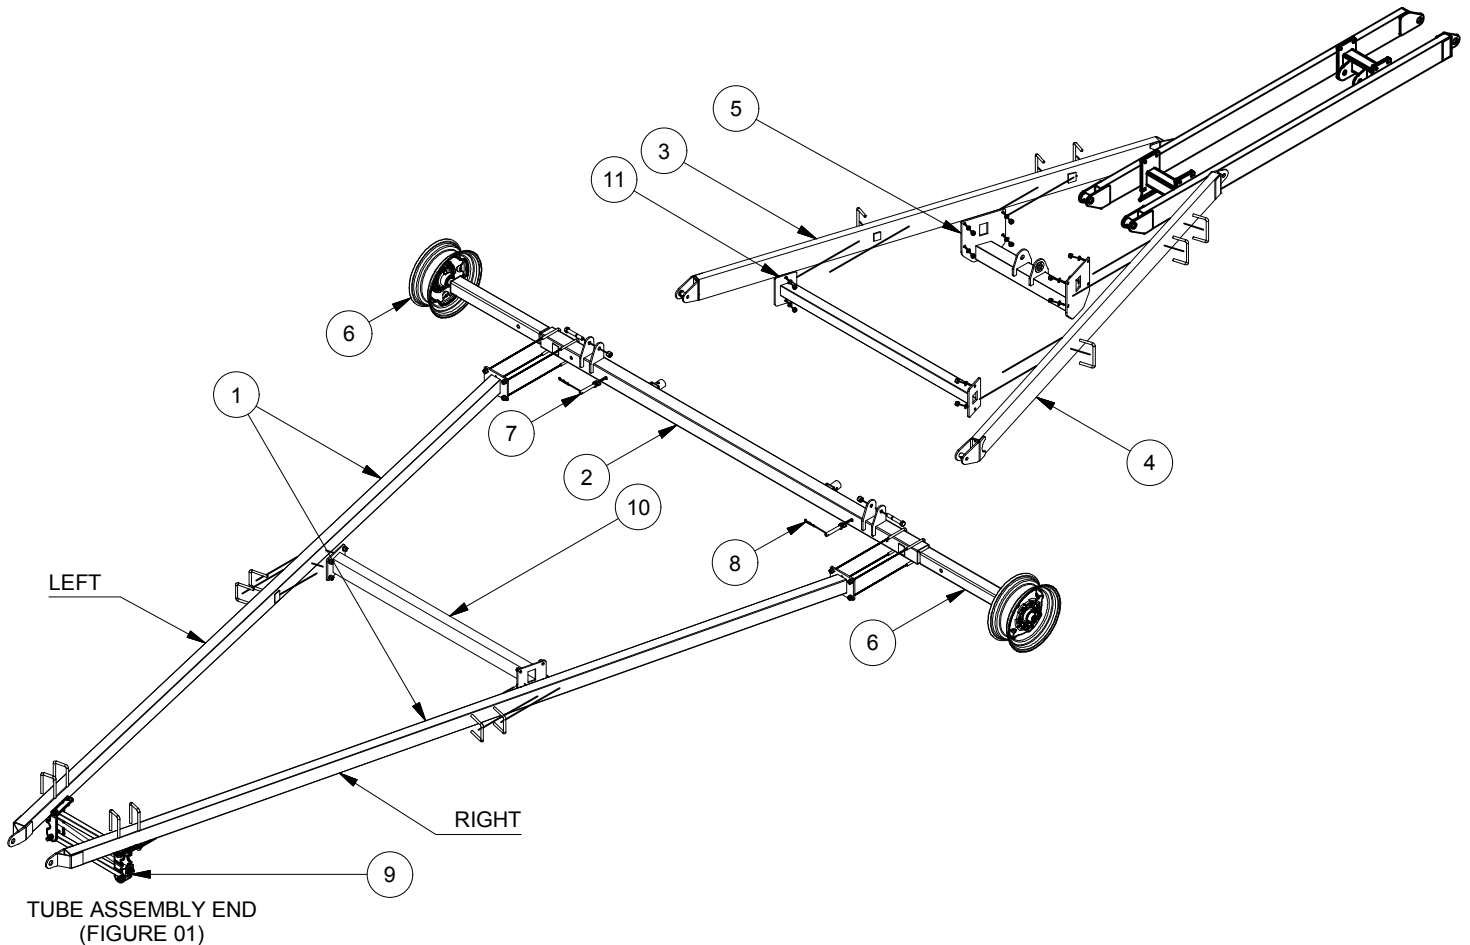

FIGURE 10
7. Lift the now assembled (FIGURE 1 & 9) together and position it over the partially assembled (FIGURE 10). Line up bottom of top lift frame to the top of the bottom lift frame. Install a pivot bushing to each side. Fasten the assemblies together at each side with 1" dia. x 8" bolt, two plated washers and a lock nut. Proceed to step 8 on this page.
1. Lay frame out as shown in **(FIGURE 10)**, ensure item **2** (axle) is on jack stands prior to beginning assembly.